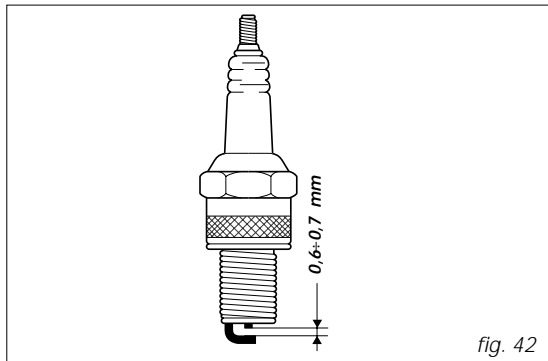

fig. 42
*Cleaning and replacing the spark plugs (fig. 42)*